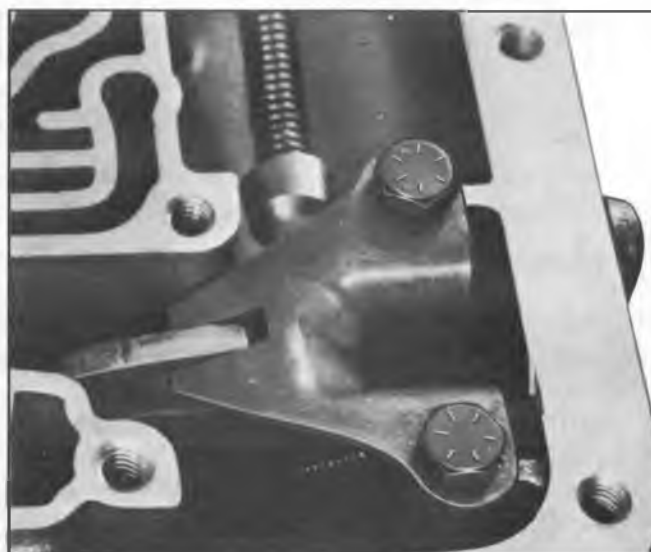

Fig. 110M—Park Lock Bracket Special Bolt Identification
- Install park lock bracket, torque bolts to 29 ft. lb. see Figure 110M.